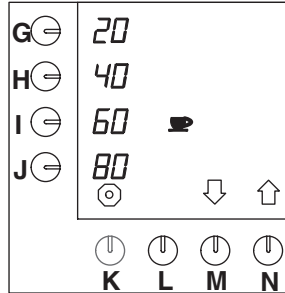

Fig. 25 Adjusting pre-programmed selection keys for cups
- Press selection key (N.)↑ until fig.25 appears on the display.